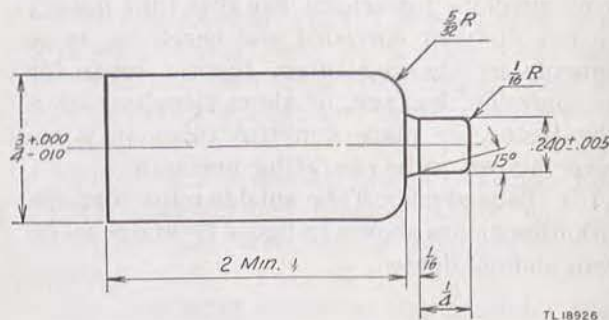

Figure 30. Tool for shaping tube shields, Radio Receiver and Transmitter BC-611-(*).
i. TUBE SHIELDS. Small dents in tube shields may be removed by forcing shield over a steel rod of the shape shown in figure 30 and tapping shield lightly with a hammer.